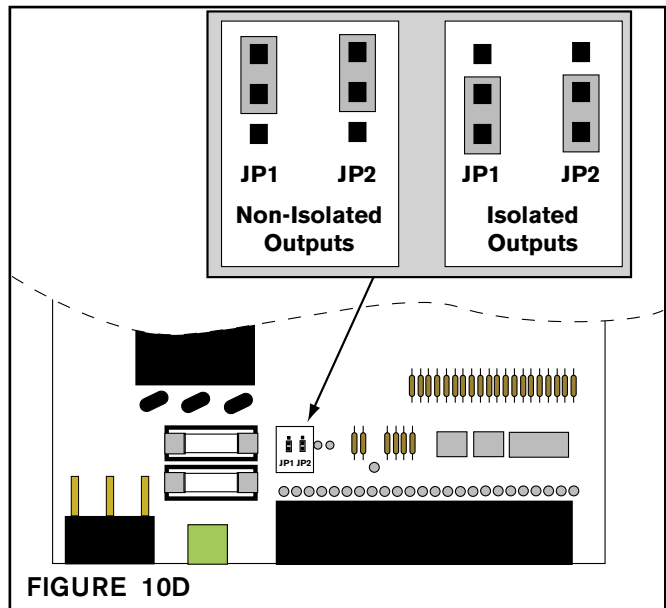

FIGURE 10D
7. Set the jumpers for the desired setting. (See figure 10D.)